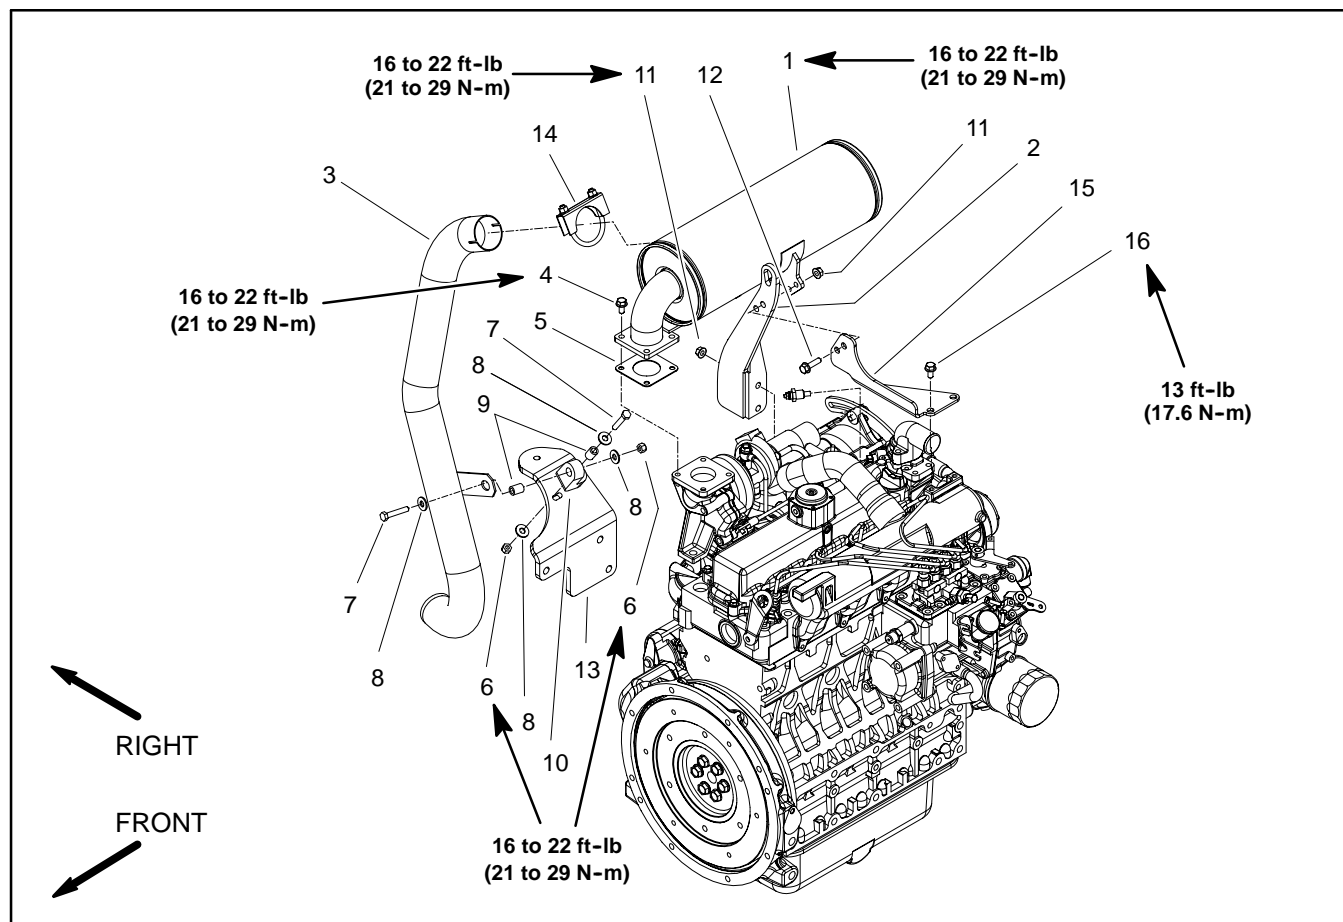
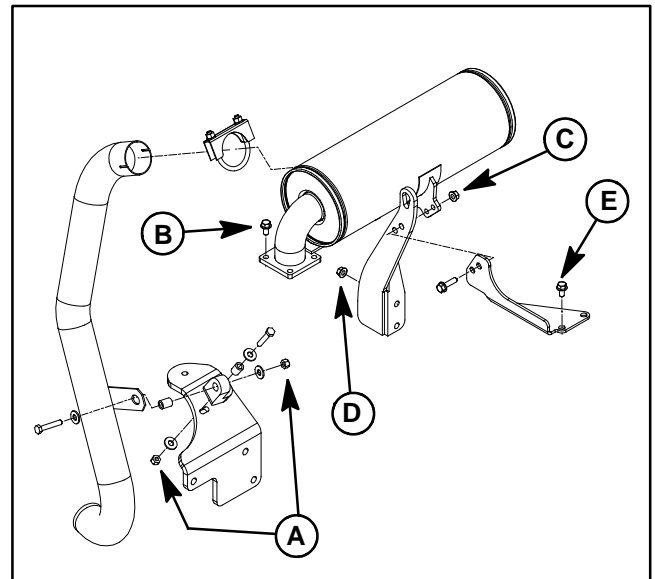

Figure 5
Figure 6
## Removal (Fig. 5)
3. Remove exhaust system components from the engine as necessary using Figure 5 as a guide.
## Installation (Fig. 5)
2. Install exhaust system components to the engine using Figure 5 as a guide. Hand tighten exhaust system fasteners and then torque in the sequence shown in Fig. 6 as follows: